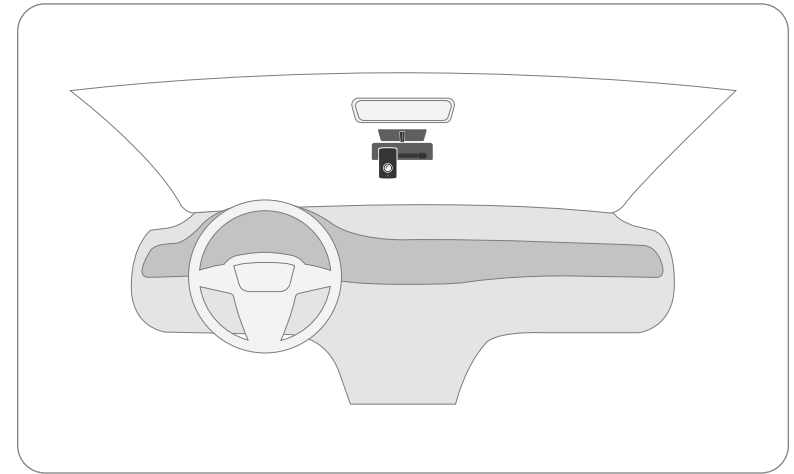

Fig. 1 Center Mount
- Desired installation location is in the center of the windshield directly under the rear-view mirror (see figure 1 for reference). Vehicles with an angled split windshield will require an angled offset bracket to ensure the camera is properly aligned and pointing straight ahead. The bracket must be ordered separately from FleetCam or a FleetCam Reseller.